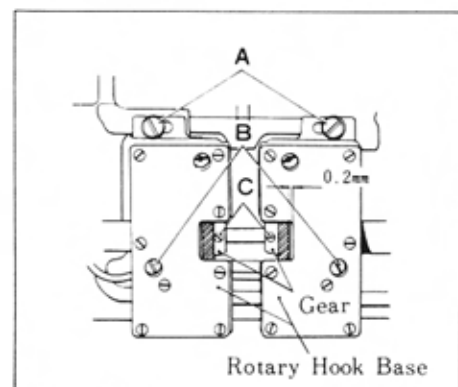

Figure 4
- (b) Loosen the two securing screws (A) and (B) in each bobbin case support housing. (see Figure 4)
- (e) Loosen the two locking screws (C) (see Figure 4) and slide the gears outward until they touch the casting. Then move each toward the center a distance of 0.2mm. This setting will center each gear on its mating horizontal gear.